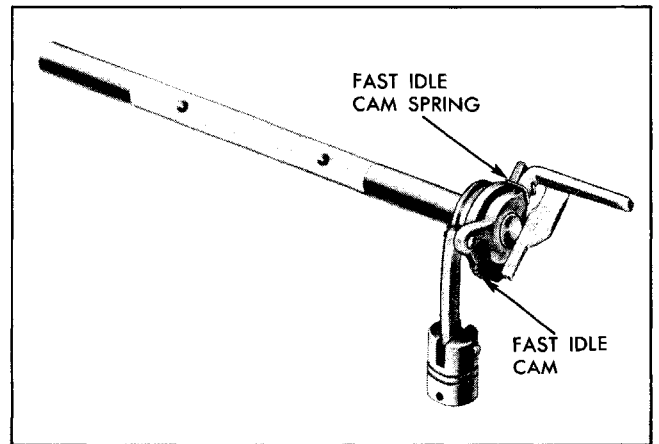

Fig. 6B-19 Choke Piston, Shaft and Fast Idle Cam Assembly—Carter
16. Remove 3 self-tapping screws and remove piston housing and small piston housing gasket from air horn casting (Fig. 6B-20).